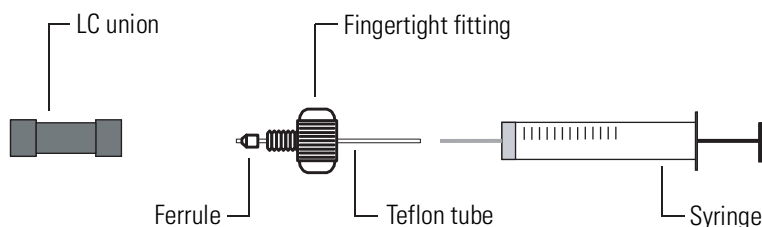

Figure 5-9. Connecting the syringe and the LC union
2. Connect a 4 cm (1.5 in.) length of Teflon™ tubing (0.03 in. ID \times 1/16 in. OD) with a fingertight fitting (for a 10-32 receiving port and 1/16 in. OD tubing) and a ferrule to the LC union. See Figure 5-9.